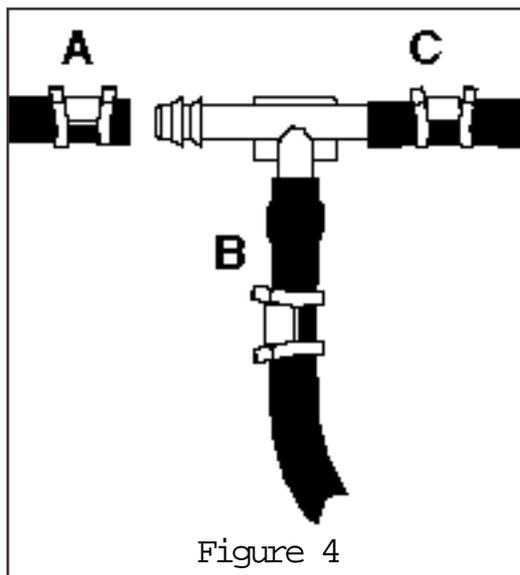

Figure 4
- D. Push the air line over one side of the "tee" until all the barbs are covered. With pliers slide the air line clamp forward until it fully covers the barbed section. Repeat procedure for other leg of tee (Figure 4).
E. Push air line onto the stem, covering all the barbs. With pliers slide the clamp forward until it fully covers the barbed section (Figure 4).